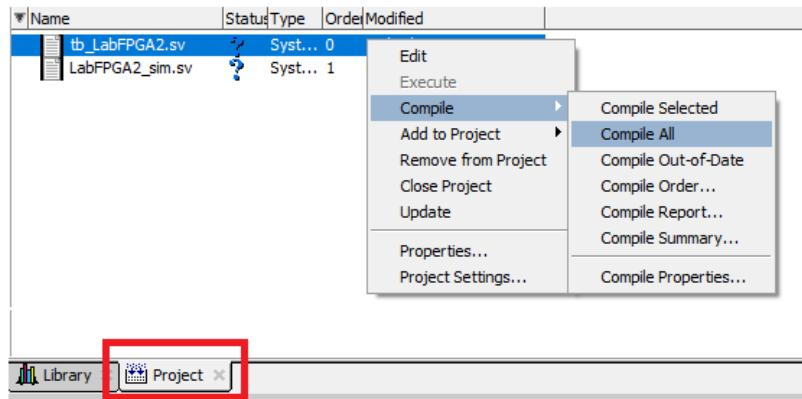

Figure 9. Compile Files
27. In the **Project** tab, you will see the added files. **Right-click** on either of the two files and select **Compile** → **Compile All**, as shown in Figure 9.